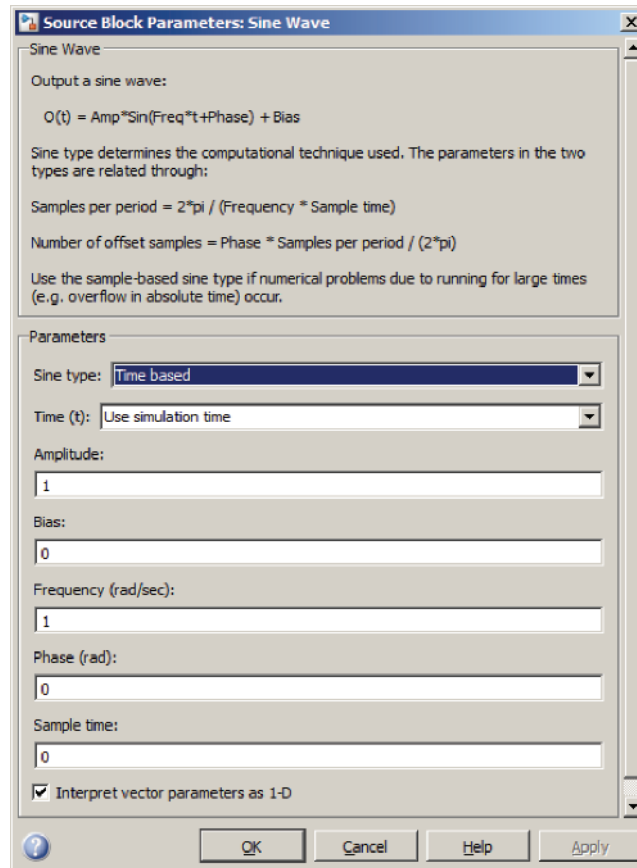
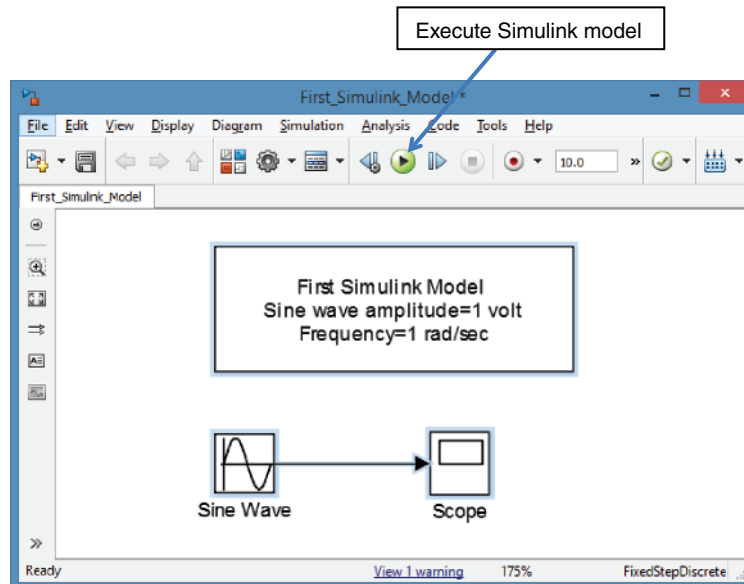
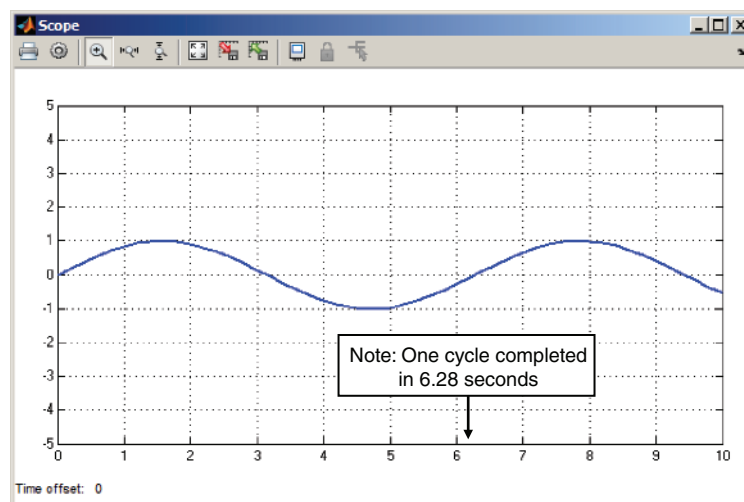
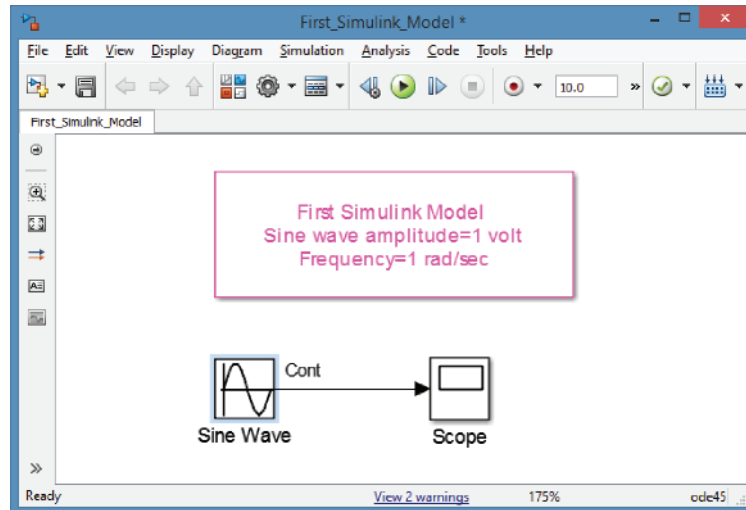

Figure 1.7 Information Window for the Sine Wave Source Block.
Figure 1.12 Executing the Simulink Model.
Figure 1.13 Scope Display After Executing the Sine Wave Model.
Figure 1.14 Model After Selecting Sample Time Under Display Tab.
In the model window, double-click on the **Sine Wave** icon; this opens an information window for the **Sine Wave** block, shown in Figure 1.7. In the
To execute the simple **Sine Wave** model, in the model window, click on the dark arrow button near the center of the toolbar, as shown in Figure 1.12. Double-clicking on the **Scope** block opens the **Scope** display window, shown in Figure 1.13. Examining the signal trace on the **Scope** display confirms the signal source settings made in Figure 1.7: **Amplitude = 1**, and **Frequency = 1 rad/s**.
In this model, under the **Display** tab, selecting **Sample Time** and then all adds a data label **Cont** indicating that continuous time has been chosen, a direct result of choosing **Sine type** as **Time based** in Figure 1.7. The model colors are now changed, as seen in Figure 1.14, where the **Sine Wave** and **Scope** blocks are black and the **Model Info** block is magenta.
At this point, another model change will be used to demonstrate an important feature of Simulink: Simulink blocks are designed to accept signals and parameter values as vector inputs. As an example, the time-based **Sine Wave** model in Figure 1.14 can be modified to generate two sinusoids instead of just one. A simple way of doing this is double-clicking on the
**1.1** Modify the Simulink model in Figure 1.12 to produce two sinusoidal waves with the following parameters: